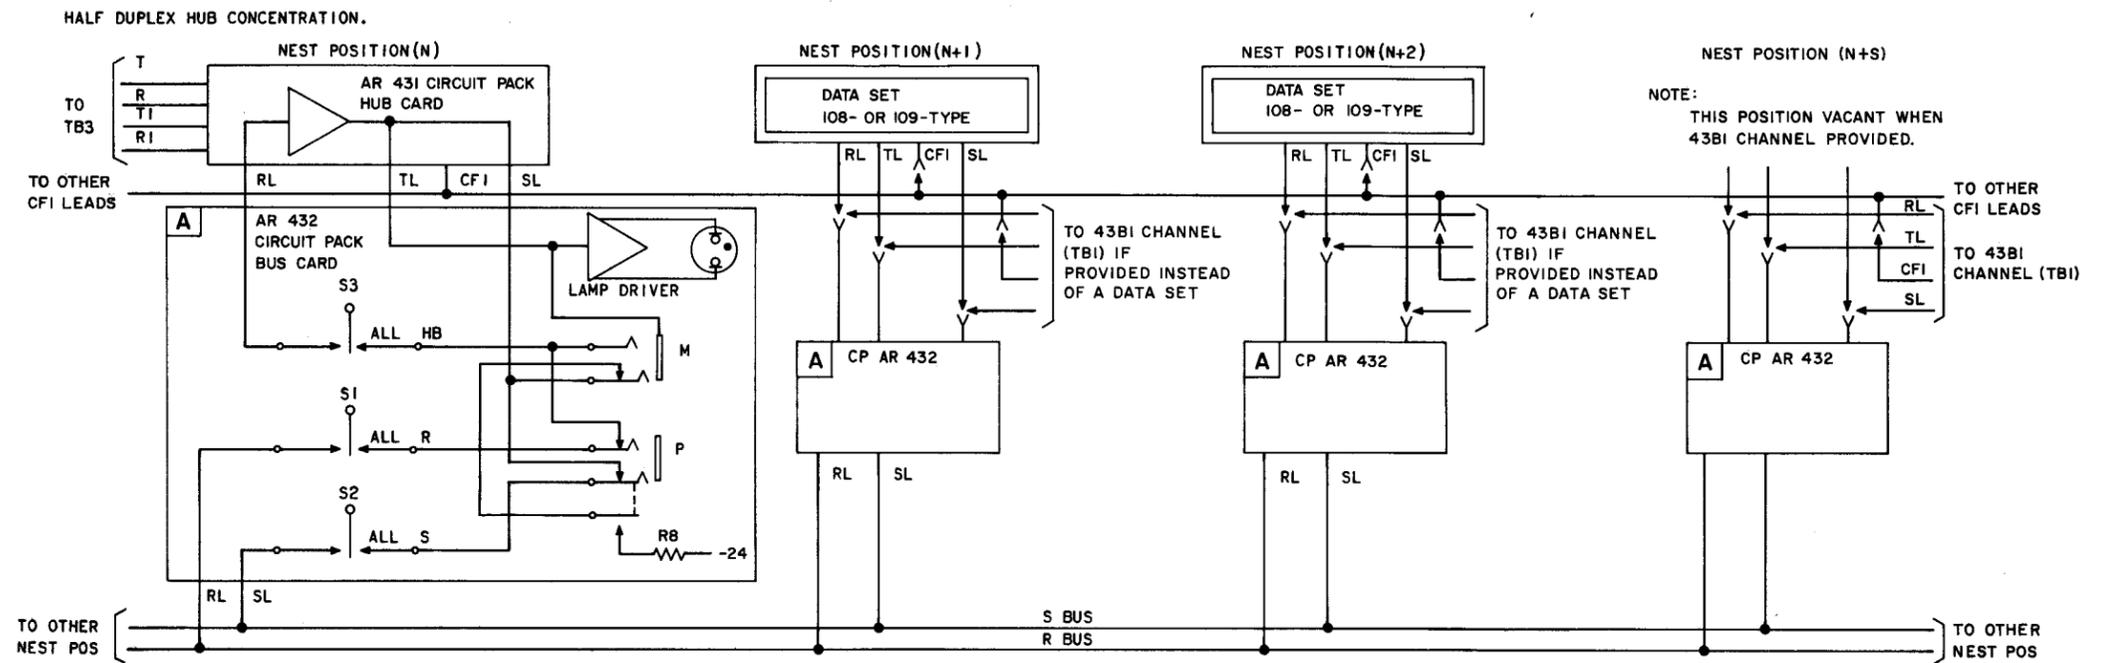
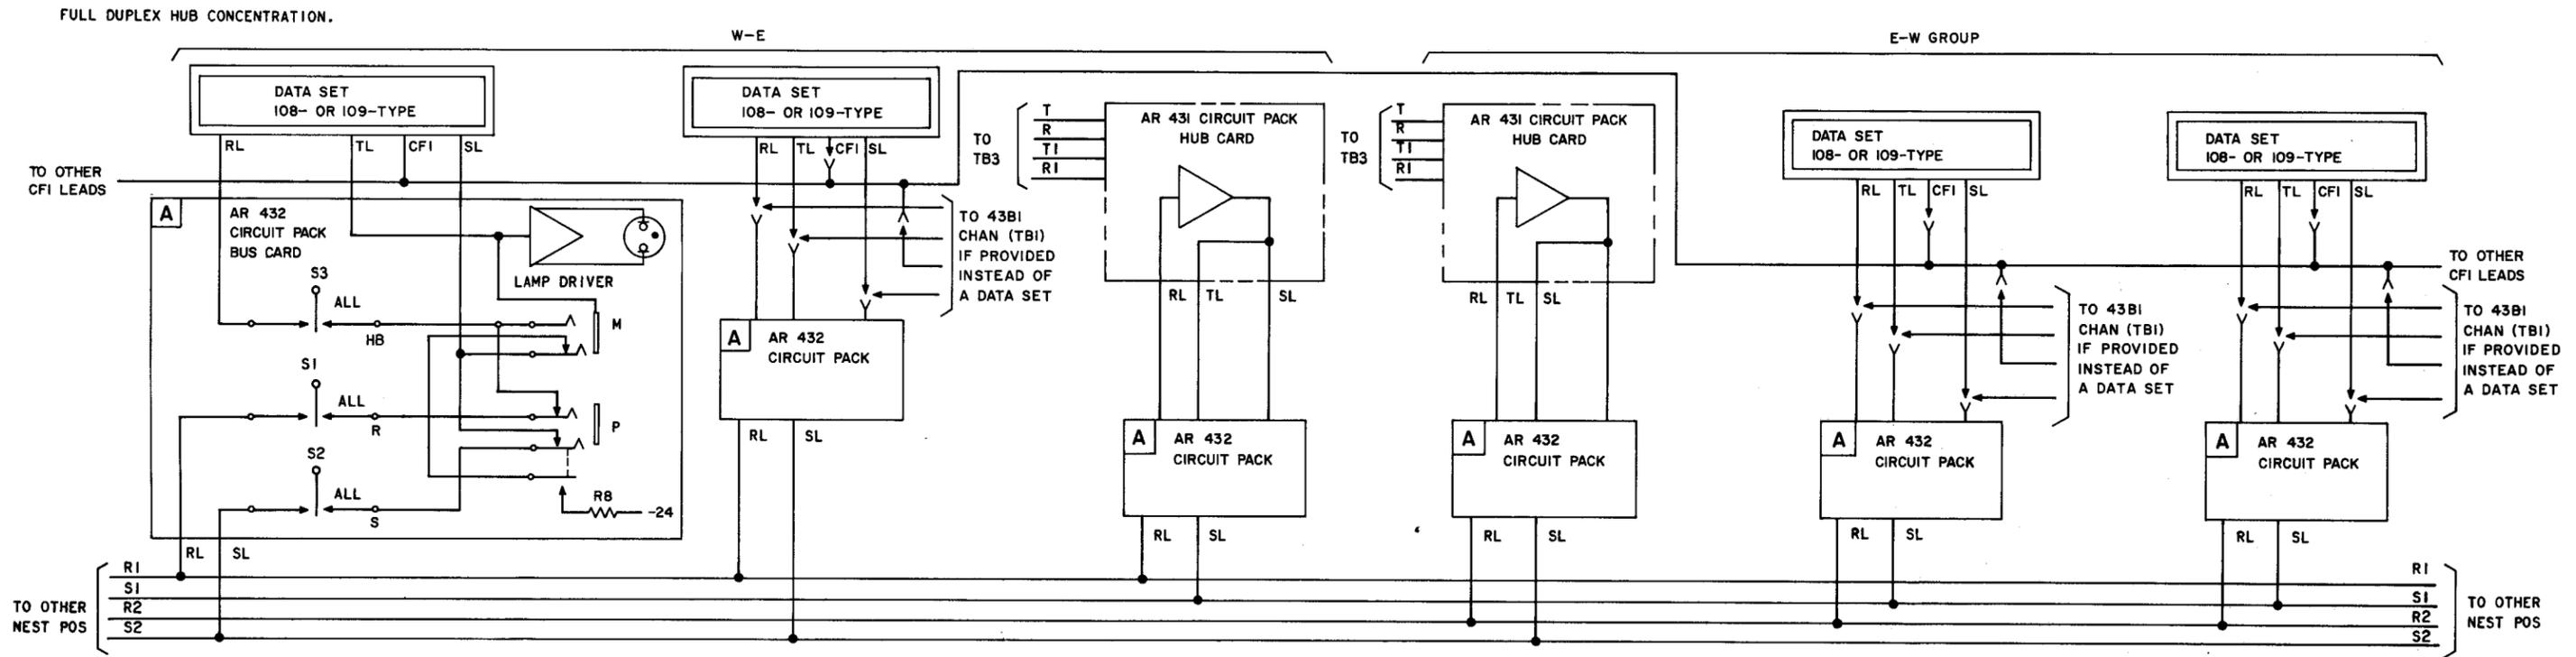

Fig. 4A—Block Diagram of Type-3 Low-Voltage Hub Showing the Half-Duplex Arrangement
Fig. 4B—Block Diagram of Type-3 Low-Voltage Hub Showing the Full-Duplex Arrangement
2.02 The data sets and circuit packs that are used to make up the hub arrangement (Fig. 4A, 4B, and 4C) are listed in Table A. Table A also gives the basic function of these units. The data sets and circuit packs are inserted into the data mounting which provides the wiring, power, and other interconnections required to establish the hub.
2.11 A block diagram (Fig. 4) showing the half-duplex (Fig. 4A), full-duplex (Fig. 4B), and back-to-back (Fig. 4C) arrangements indicates the interconnections of the equipment that make up the hub. For additional information on the data mountings and connection of this equipment, refer to the section entitled 27-Type Data Mountings—Identification (590-102-123) and Type-3 Low-Voltage Hub—Installation and Connections (312-807-200).